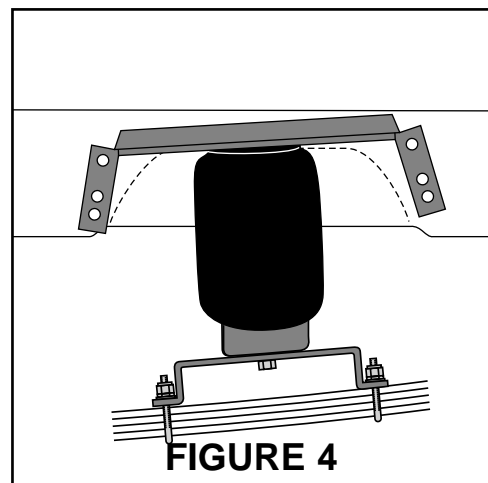

FIGURE 4
7. Using the slot in the lower bracket, push the upper bracket against the frame rail. Use the Pal nuts on the threaded portion of the installation tool to adjust the upper bracket so that the flanges of the upper bracket are flat against the frame rail and at least four mounting holes are on the flat middle section of the frame rail. **Do not drill any holes on the upper or lower radiused edge of the frame rail.** You must also allow at least 1.5" above the upper bracket for air fitting clearance. The brackets can be mounted anywhere within the threaded range of the installation tool (Figure 4).
NOTE: The frame has an indented area directly over the axle. Normally the upper bracket will span this indented area. If the flange of the upper bracket falls onto or just inside the radiused edges of the indent, it is ok, drill and fasten tight to that rounded surface (Figure 4).